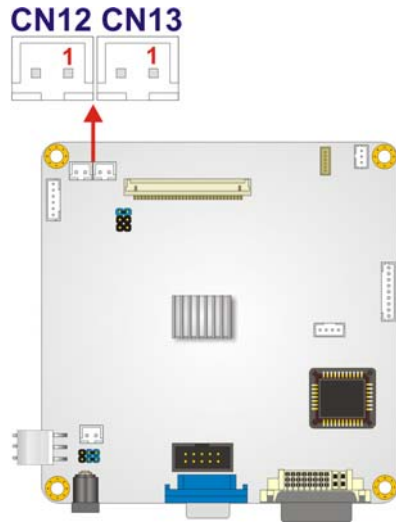

Figure 4-32: Power Output Connector Locations
- CN Location: See Figure 4-32